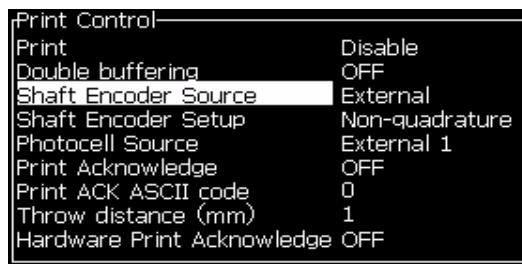

Figure 4-44: Print Control Menu
- 4 Set the shaft encoder source to External. Navigate to *Configure* > *Shaft Encoder Source* in the UI. The *Print Control* menu appears (see Figure 4-44 on page 4-35).